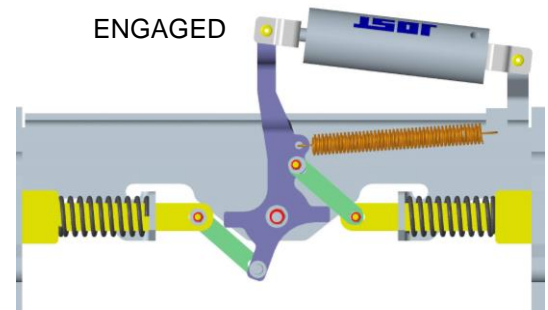

FIGURE 2
1. Engage the locking plungers as shown in figure 2.